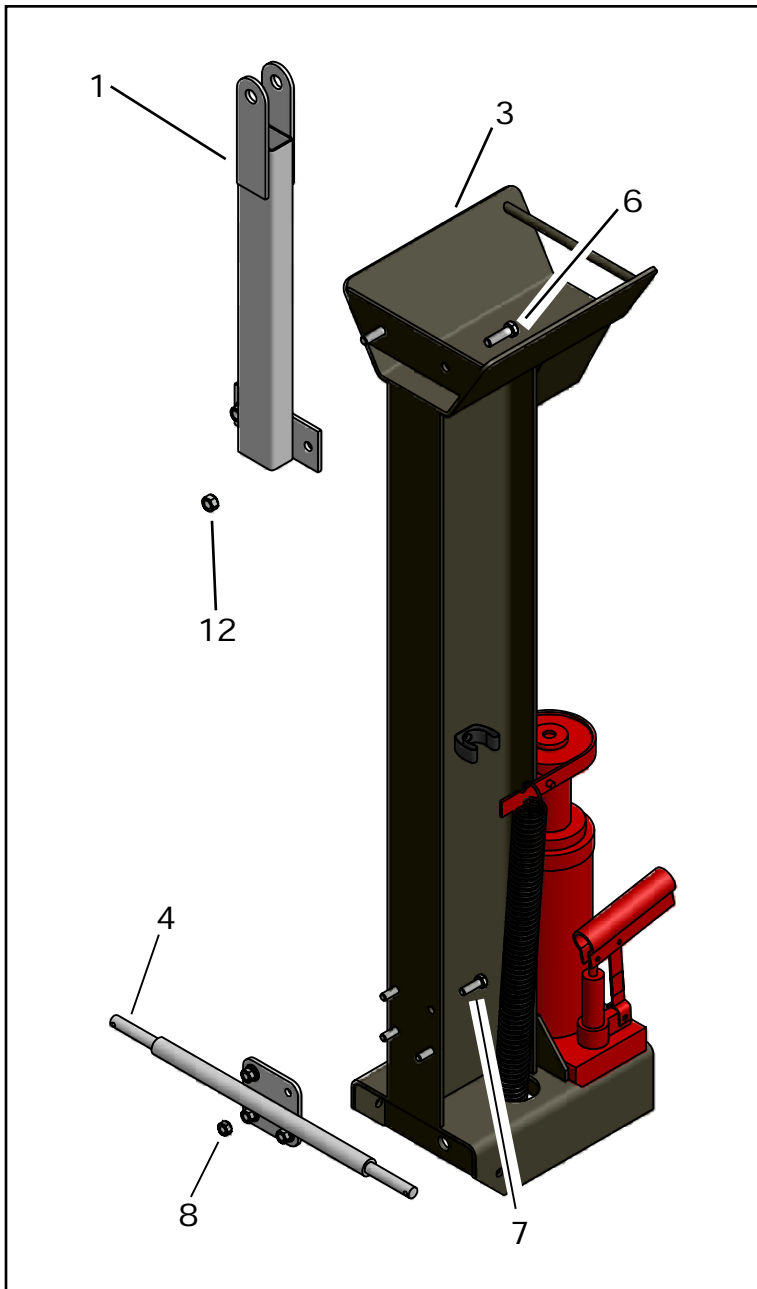

Figure 1
2. With the Log Splitter(3) standing on end, attach the Hitch Assy(1) using two M10 x 25 Hex Bolts(6), and secure with two M10 Hex Nuts(12). Be sure that all bolts are tight. (Figure 1)
3. Attach Axle Assy(4) to the Log Splitter(3) using four M8 x 25 Hex Bolts(7), and secure with four M8 Hex Nuts(8). Be sure that all bolts are tight. (Figure 1)